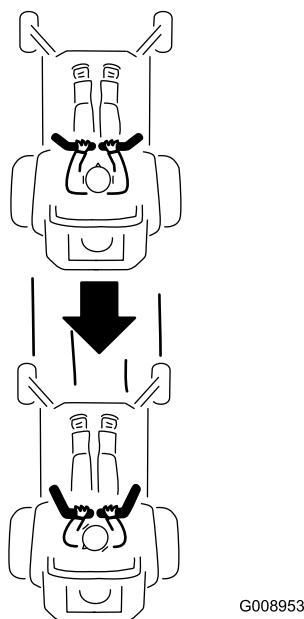

Figure 35
2. To go backward, slowly pull the motion-control levers rearward (Figure 35).